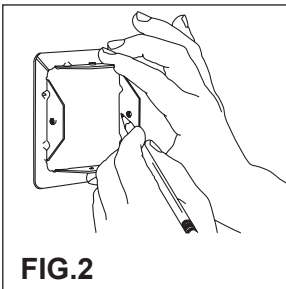

FIG. 2
- i.) Mark a nom. 1-3/4" (44 mm) square opening. Make sure opening is square and plumb. The inside opening of the wall plates can be used as a template (See Fig. 2).